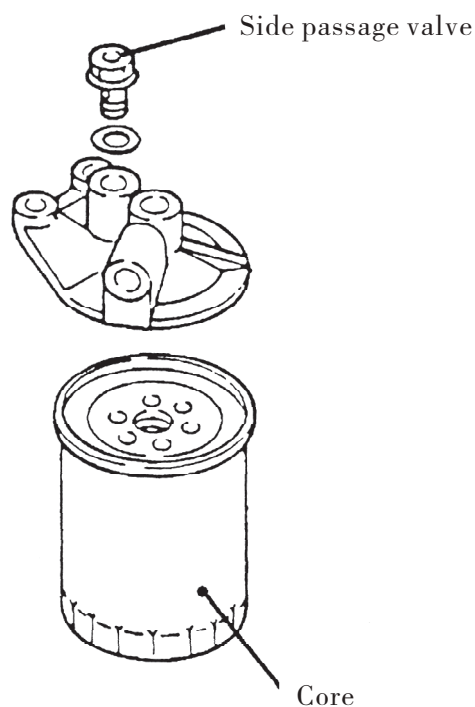

Fig. 1.6
1.5.2 For fuel filter, See Fig. 1.6.